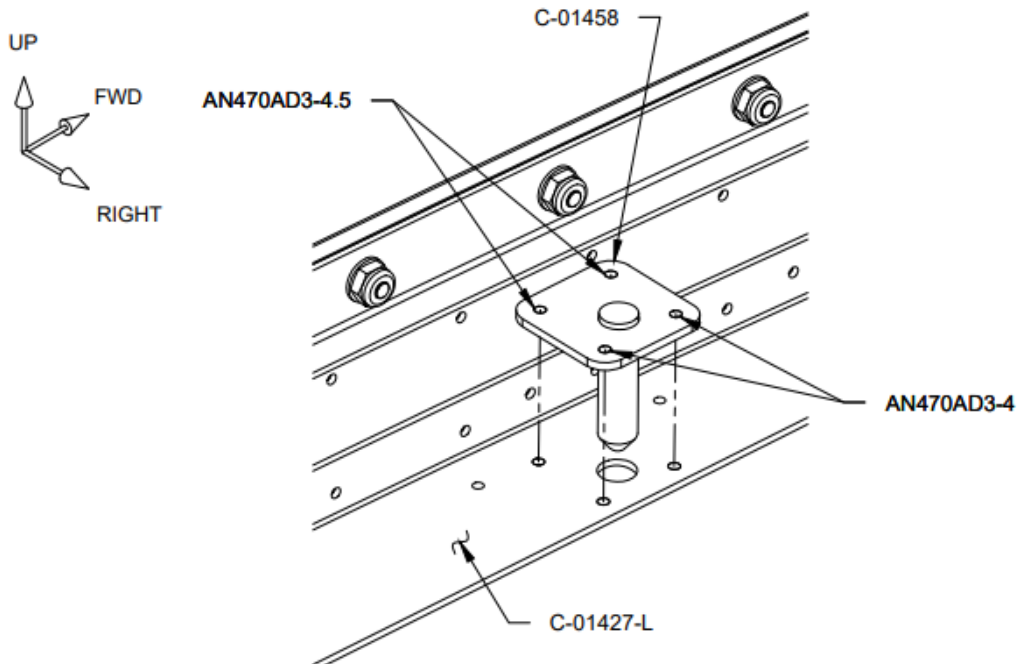

FIGURE 1: GUIDE PIN INSTALLATION
Step 1: Remove Guide Pin Assembly C-01453 and replace with Guide Pin Assembly C-01458 Guide Pin. See Figure 1.